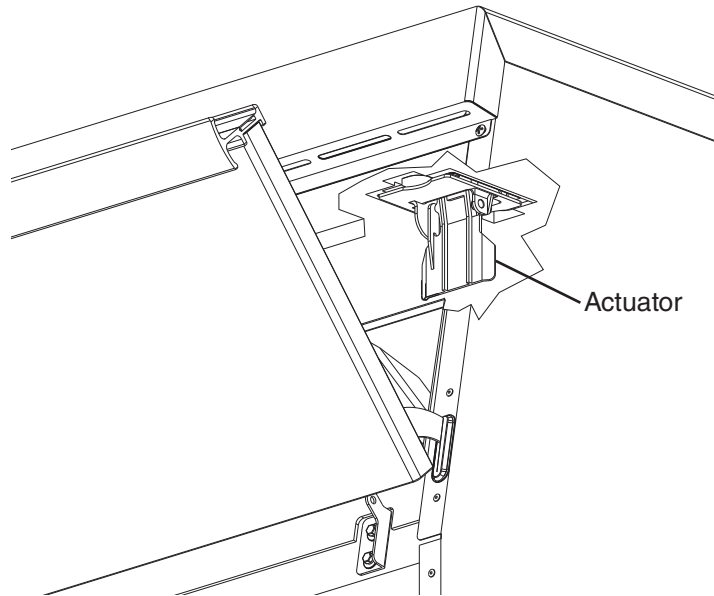

Fig. 3
- 5) Engage the actuator located in the ice storage bin. See Fig. 3. 90-sec. compressor shutdown time starts. Once the 90-sec. compressor shutdown timer terminates, compressor de-energizes and the 60-sec. gear motor shutdown timer starts. Once the 60-sec. gear motor shutdown timer terminates, gear motor de-energizes. Release the actuator to start the automatic icemaking process.